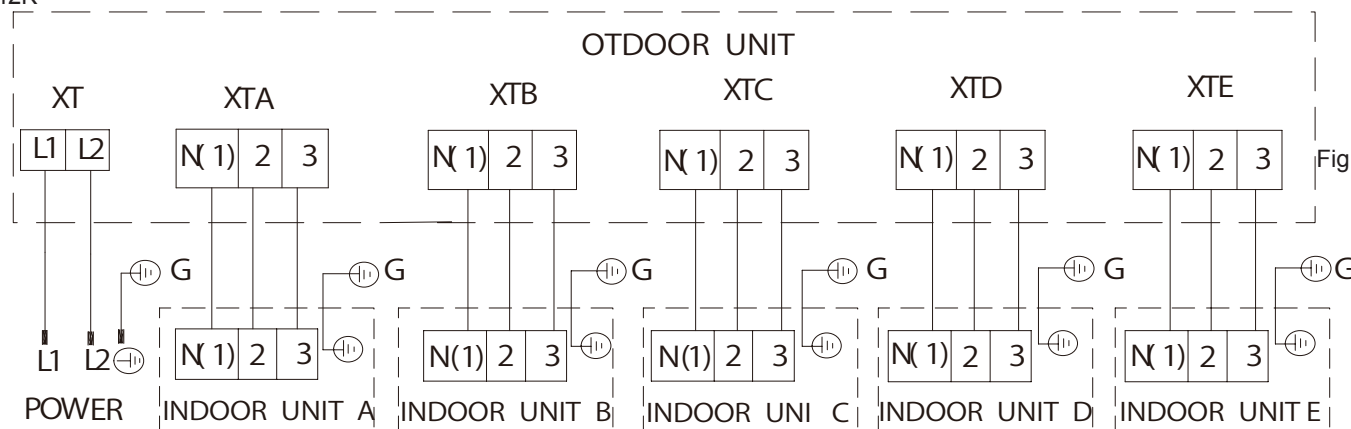

Fig.10
- 3)As shown in the following figure (Fig.10), expel the gas inside the indoor unit and refrigerant pipe out by the vacuum pump.